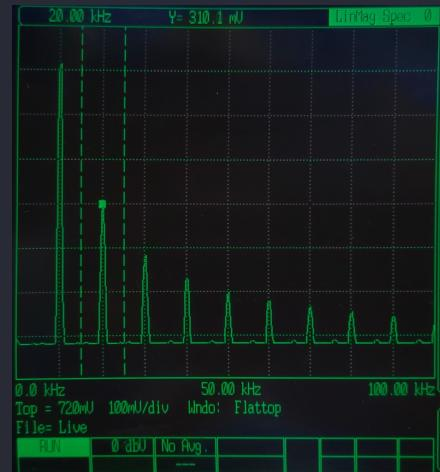

Figure 0.6: SR770 FFT Network Analyzer view
- Saw Wave: (SAW waveform on 33500B) The saw wave is a sum of all harmonics of the fundamental frequency as shown in Fig. 0.6.